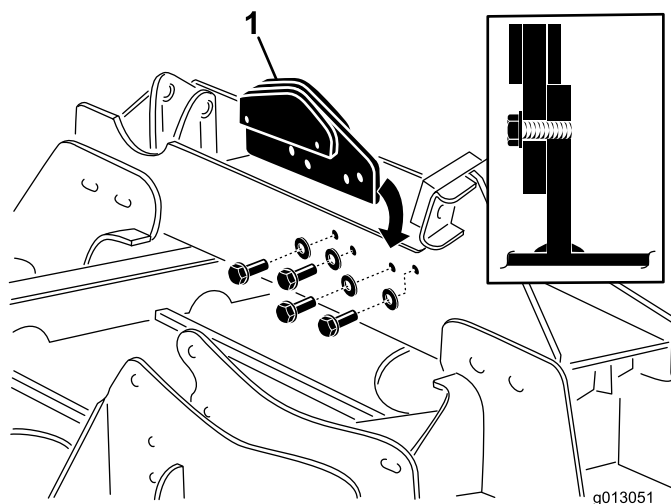

Figure 5
- Install the new stop assembly to the deck connection bracket and the base mount with (4) 3/8 x 1-1/2 inch bolts and washers. Position the stop assembly as shown in Figure 5. Torque the bolts to 39-47 ft-lbs (53-64 N-m).
resting on the top of the deck connection bracket as shown in Figure 5, inset.